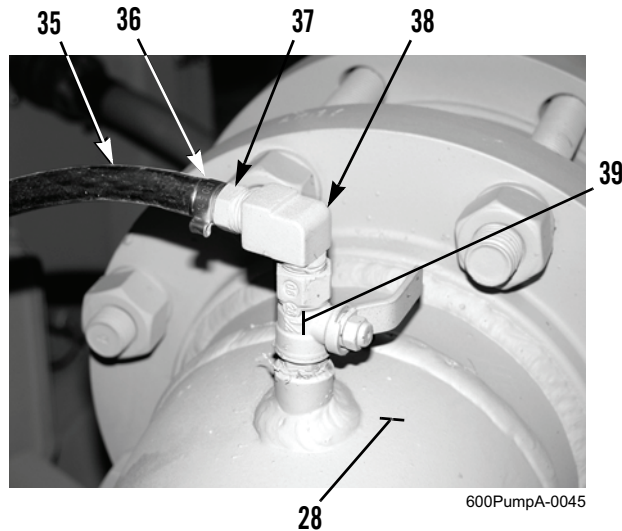

Figure 13. Manual Air Eliminator Valve and Drain Hose.
17. Install manual air eliminator valve (Figure 13, Item 39) on 90-degree discharge elbow (Figure 13, Item 28).
18. Install elbow fitting (Figure 13, Item 38) on manual air eliminator valve (Figure 13, Item 39).
19. Position new hose clamp (Figure 13, Item 36) on manual air eliminator valve drain hose (Figure 13, Item 35). Hold hose and install barb fitting (Figure 13, Item 37) on elbow fitting (Figure 13, Item 38). Tighten hose clamp.